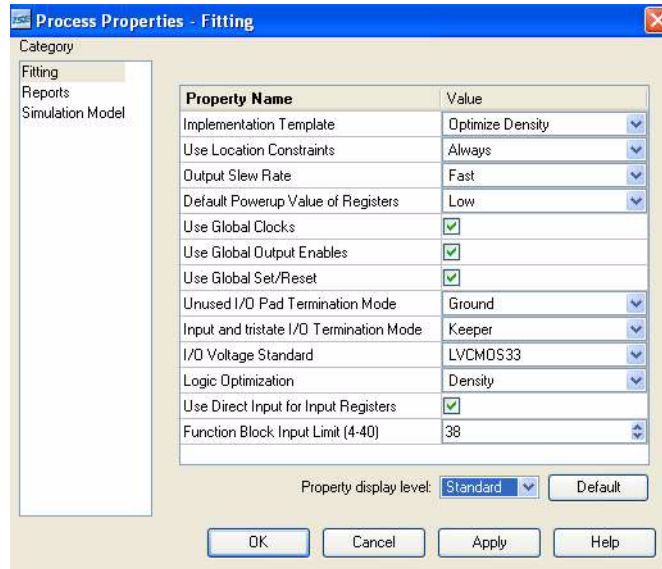

Figure 5-7: PROCESS PROPERTIES – IMPLEMENT DESIGN
8. A right-click on **Implement Design** allows you to edit the properties for each particular step, as shown in Figure 5-7. Change the **I/O Voltage Standard** from
You can set the default I/O standard under the **Fitting** tab of the **Process Properties** window, as shown in Figure 5-7.